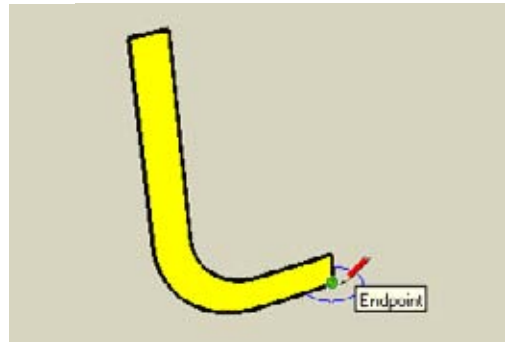

Figure 2-55
5. With Shift pressed, hover over the corner shown in Figure 2-55, but don't click. You want to use this point as a placement inference.